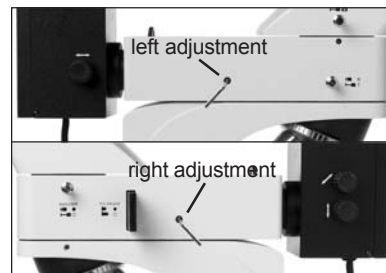

Figure 26
14. If the iris is not properly centered in the field then use the two included 3mm hex wrenches to center it. Place one into each of the access holes located on either side of the reflected illuminator (figure 26). Make sure they completely engage the hex screws located within.